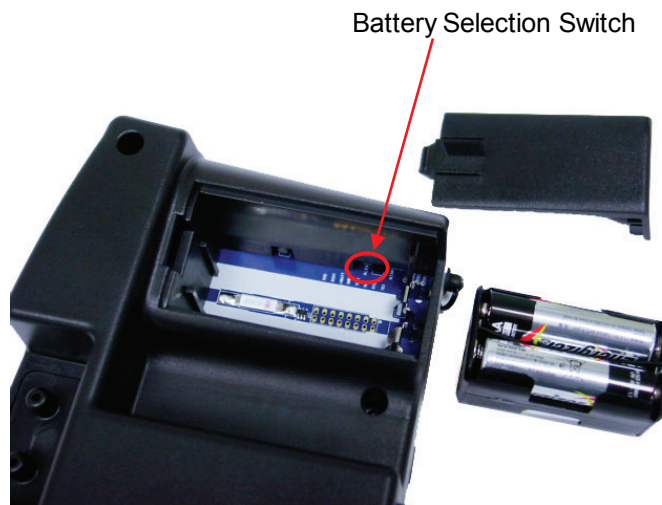

Figure 6: Location of Battery Type Selector Switch
4. Refer to Figure 6 and set the battery selection switch to indicate the type of batteries you are using.